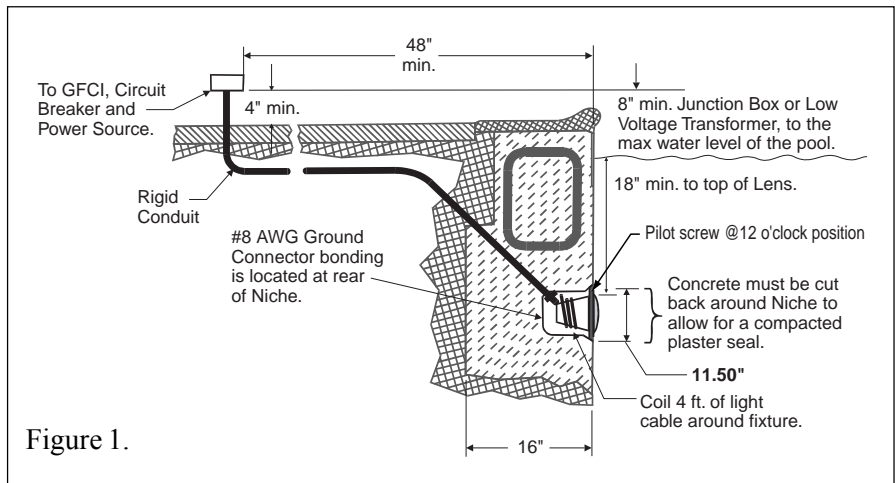

Figure 1.
A. Preparatory steps which must be completed by the electrician before light fixture is installed; see Figure 1.
- The Junction Box (or, for 12 volt models, the low voltage transformer) must be located at least 8 inches above water level, 4 inches above ground level, and at least 48 inches from the edge of the pool; see Figure 1.
- The wet niche must be properly installed so the pilot screw hole is at the 12 o'clock position and that the top edge of the underwater light's lens is at least 18 inches below the surface of the water in the pool; see Figure 1.
- The wet niche must be properly electrically bonded and grounded via the No. 8 AWG ground connector located at the rear of the niche; see Figure 1.
- Feed cord through conduit to Junction Box, leaving at least 4 feet of cord at the light fixture to coil around the light; see Figure 1. This 4 feet of cord around the light allows the light to be serviced after the pool is filled with water.
- b. The Junction Box (or, for 12 volt models, the low voltage transformer) is located at least 8 inches above water level and at least 4 inches above ground level and at least 48 inches from the edge of the pool; see Figure 1.
- d. The wet niche is properly installed so that the top edge of the underwater light's lens is at least 18 inches below the surface of the water in the pool; see Figure 1.
- e. The wet niche is properly electrically bonded and grounded via the No. 8 AWG ground connector located at the rear of the niche; see Figure 1.
5. Leave at least 4 feet of cord to coil around the light fixture; see Figure 1. This 4 feet of cord coiled around the light allows the light to be serviced after the pool is filled with water.